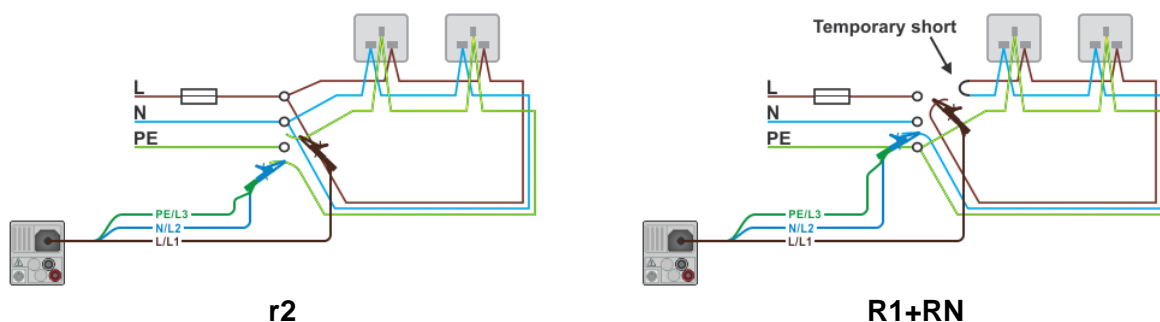
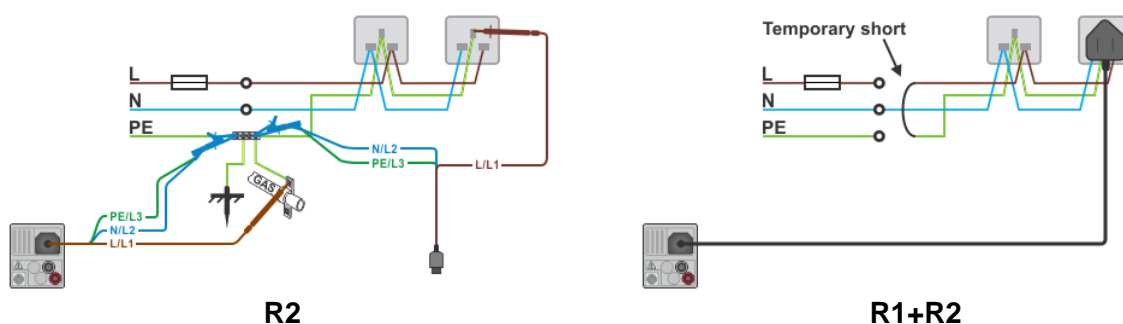

Figure 7.21: Testing r1, rN, r2 and R1+RN sections of the wiring in ring circuits
Figure 7.22: Testing R2 and R1+R2 sections of the wiring in final circuits
- Connect test leads, see **Figure 7.20**, **Figure 7.21** and **Figure 7.22**.